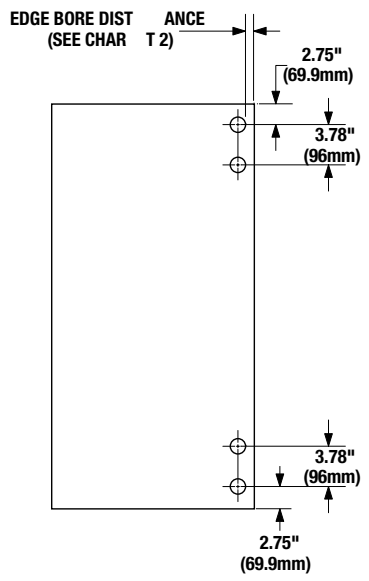

figure 3
- Position the slide channels into the molded rack using the indexing pin on the back of the molded rack through the 1/4" dia. hole on the rear of the slide channel (fig. 3) . Confirm that the slide assemblies are parallel to case edge and then mount the assemblies to the case side by driving screws through the slide assembly.